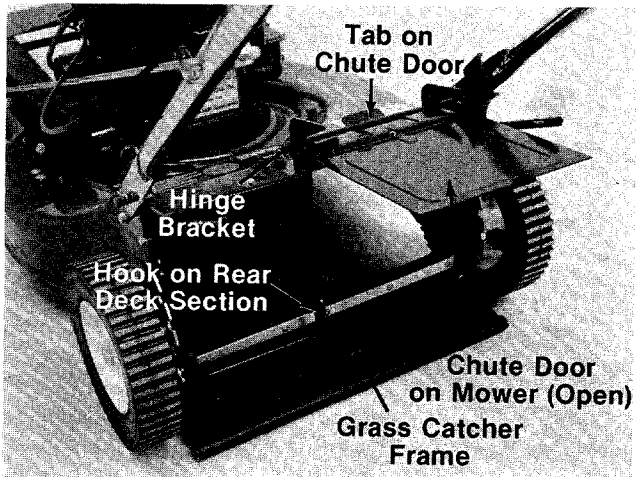

FIGURE 11.
1. Attach the grass catcher frame to rear of the mower by hooking grass catcher into hook on rear deck section. See figure 11.
Figure 11 is shown with the chute door open for photo clarity only.
2. Lift the rear of grass catcher up and slip the grass catcher frame into the slots on the hinge bracket. See figures 11 and 12.